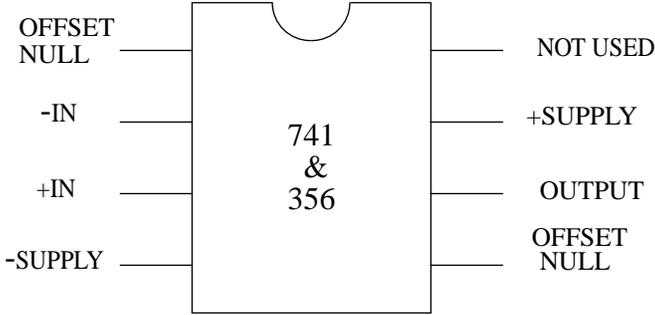

Figure 3: pin assignments for the 741 op-amp.
- (4-4) Following your design from Pre-Lab Exercise 4-3, construct the digital-to-analog converter using a 741 op-amp and the resistors in the package obtained earlier. Figure 3 shows the pin assignments for the 741 op-amp. Do not yet connect the converter data-bit inputs to the data-bit outputs from the memory. Rather, adjust the offset voltage v_{OFF} to 0 V, and connect each input individually to the 5-V power supply while leaving the other inputs grounded. Then, measure v_{DAC} with the multimeter, and compare the measurements to the data in the table prepared during Pre-Lab Exercise 4-4 to determine whether or not the converter is functioning properly.
- (4-8) Following your design from Pre-Lab Exercise 4-7, construct the volume control stage using a 741 op amp, but do not yet connect it to the headphones. Figure 3 shows the pin assignments for the op-amp. Set the function generator to produce an unbiased 1-kHz sinusoid with a 2-V peak-to-peak amplitude and connect it to the input of the buffer. With one channel of the oscilloscope, observe the input to the volume control stage, and trigger the oscilloscope from that channel. With the other channel, observe the volume control stage output v_{OUT} . Vary the frequency of its input voltage and compare the frequency response of the volume control stage to that predicted by the table prepared during Pre-Lab Exercise 4-8 to determine whether or not the volume control stage is functioning properly.